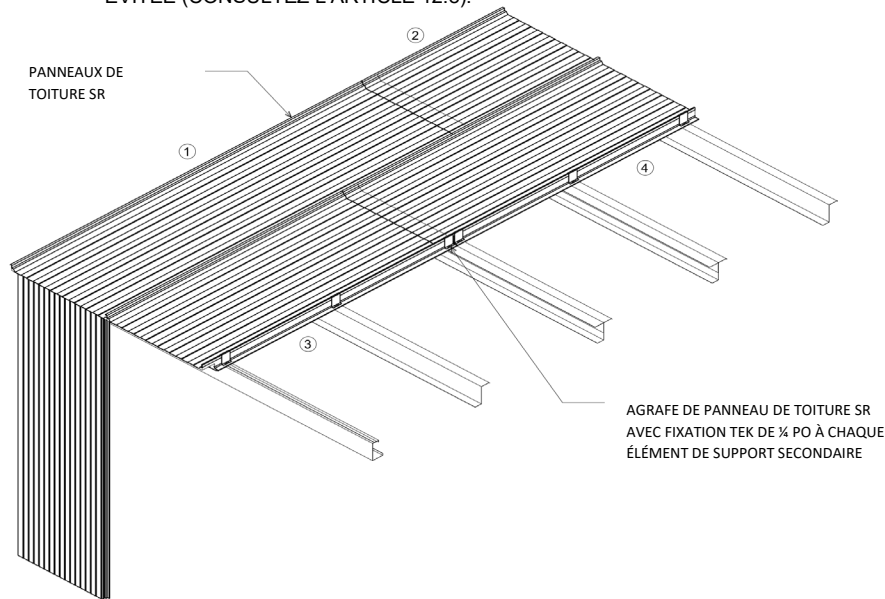

FIGURE 5
- 11.2 LES PANNEAUX DE TOITURE SR2 DOIVENT ÊTRE INSTALLÉS DANS UN ORDRE PRÉCIS. CELA GARANTIT LE CHEVAUCHEMENT ADÉQUAT DES CHEVAUCHEMENTS D'EXTRÉMITÉ ET LATÉRAUX (CONSULTEZ LA FIGURE 5 CI-DESSOUS). LES NUMÉROS DE PANNEAU CORRESPONDENT À L'ORDRE D'INSTALLATION.